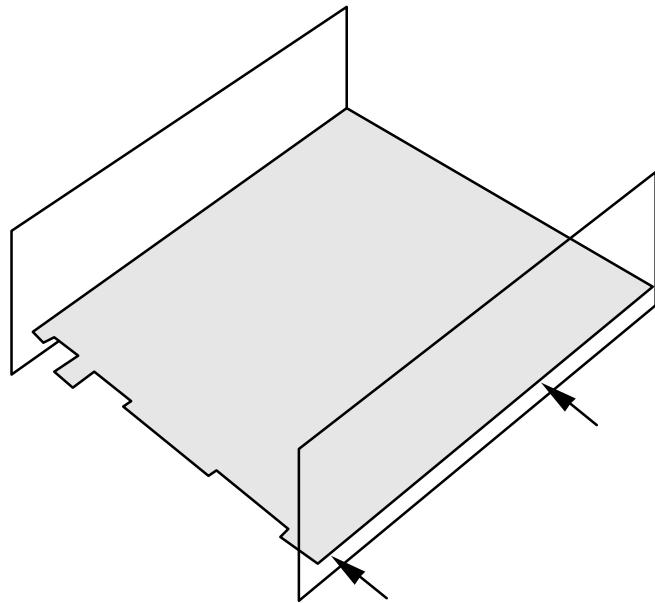

Figure 6-8
- Attach the side panels to the RF board using two chassis screws per side panel. The side panels are attached to the 2-D fasteners that are already in place on the RF board. Figure 6-8 shows the approximate location of the two screws used to secure the right side panel.